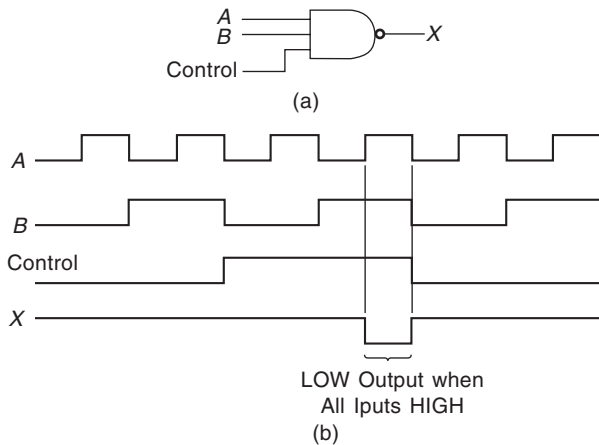

Fig. 4.49 Timing Analysis of a NAND Gate with a Control Input.
4.45 Sketch the output waveform at *X* for the NAND gate shown in Fig. 4.49(a) with the given input waveforms at *A*, *B* and control in Fig. 4.49(b).